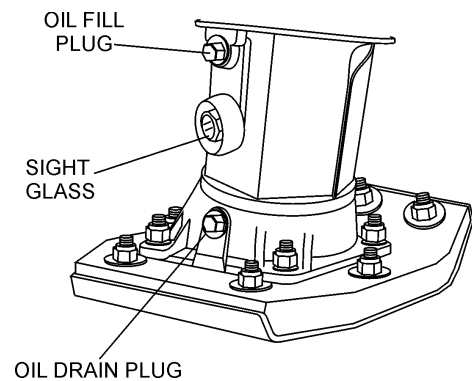

Figure 18. Oil Drain Plug
- Drain oil reservoir on foot housing (Figure 18). Refill with approximately 1.7 pt. (800cc) of 10W-30 motor oil. Oil should be midway in sight glass. Break in oil should be changed after first 50 hours.